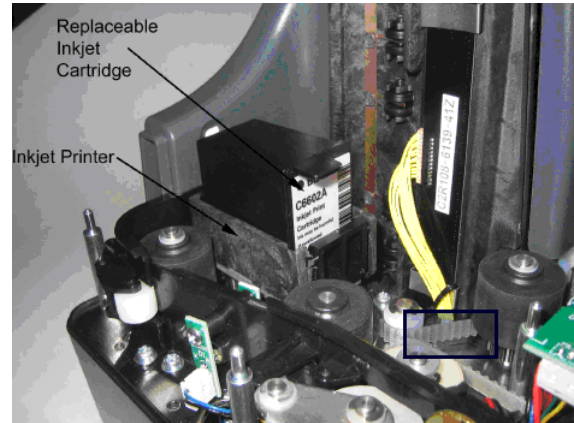

Fig. 5
1. Remove the center cover and locate the inkjet printer. (Fig. 5)